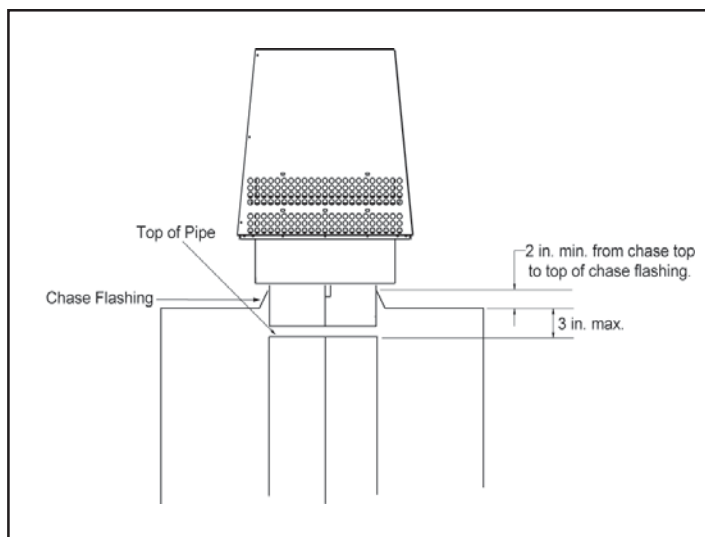

Figure 25 - Installing a TS345/TS345P Square Termination Cap
- d. For installation utilizing a TS345/TS345P Square Termination Cap, the uppermost chimney section must not be more than 3 in. below the chase top. See Figure 25.